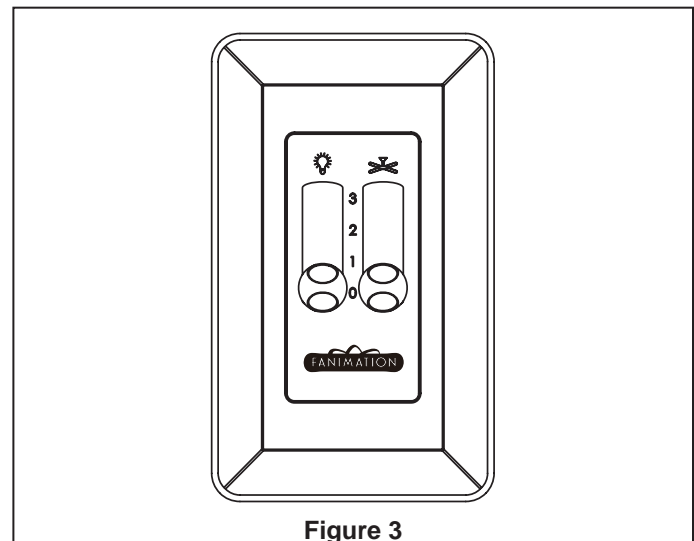

Figure 3
4. While pulling up on the Downrod, securely tighten the two 3/16-24 x 3/8" setscrews in the downrod support. (Figure 3)
5. Route wires through opening in Motor Coupler Cover and Canopy. Position Canopy on fan shown with open side facing up. (Figure 3)
4. Carefully lift the fan and seat the downrod/hanger ball assembly on the hanger bracket that was just attached to the ceiling joist. Be sure the groove in the ball is lined up with tab on the hanger bracket. (Figure 3)
5. Attach the safety cable to ceiling support cable. Slide cable clamp onto safety cable (from fan). Place the end of cable through the loop of ceiling support cable. Pull as much cable through loop as possible. Feed end of cable into clamp hole and firmly tighten screw (Figure 3). Cut off excess safety cable.
### 2. Operating & Using Wall Control (Figure 3):
5. Attach assembled blades and blade holders to the motor hub using the provided screws. (Figure 3)